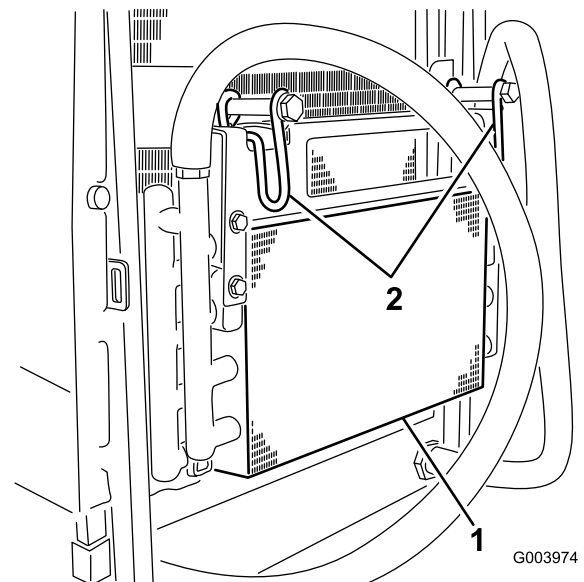

Figure 57
5. Pivot the latches inward to release the oil cooler (Figure 57).